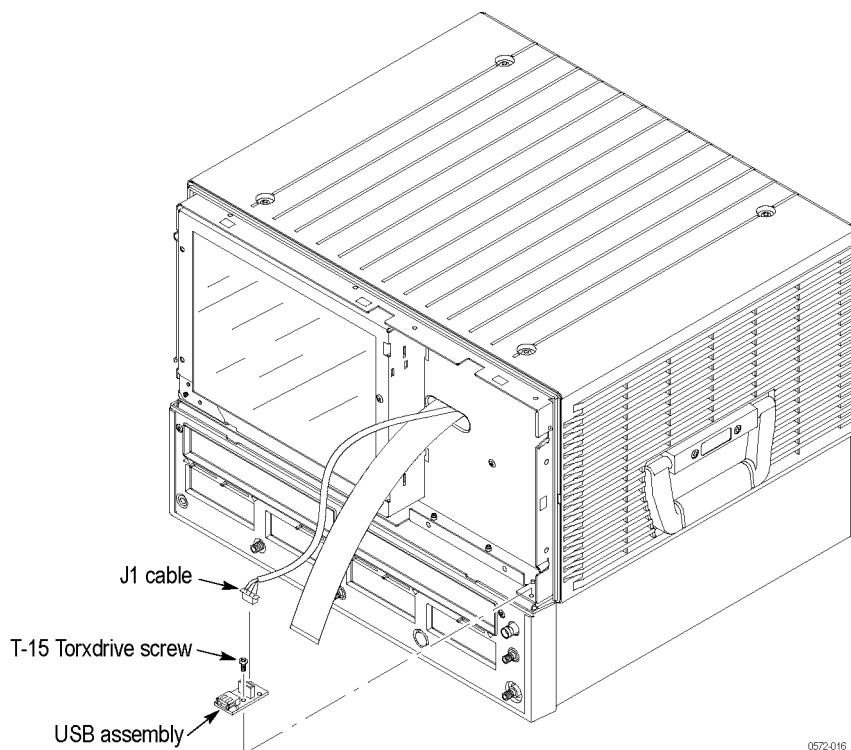

Figure 9: USB assembly removal
1. *To remove the USB assembly:* (See Figure 9 on page 39.)